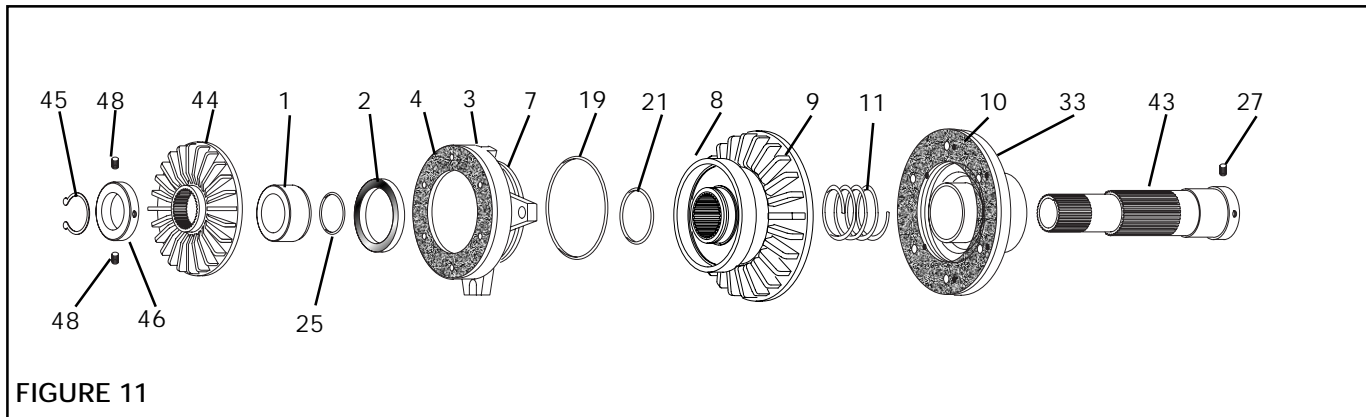

FIGURE 11
1. Supporting the inner bearing races, press the Hub (Item 43) into the Drive Disc (Item 33) and Bearings (Item 15) (See Figure 11).
2. Install the Return Spring (Item 11) (See Figure 11).
3. Supporting the inner bearing race, press the Piston Air-Chamber Assembly (Items 2, 3, 4, 7, 8 and 9) onto the Hub (Item 43) (See Figure 11).
4. Lubricate the new Spacer O-ring Seal (Item 25) with fresh o-ring lubricant and install it into the Spacer (Item 1) (See Figure 11).
5. Press the Spacer (Item 1) into the new Shaft Seal (Item 2) (See Figure 11).
6. Slide the Brake Friction Disc (Item 44) onto the Hub (Item 43) (See Figure 11).
7. Reinstall the Hub Collar (Item 46) (See Figure 11).
8. Reinstall the Retaining Ring (Item 45) (See Figure 11).
9. Tighten the Cap Screw (Item 47) and Set Screws (Item 48) to 25 Ft. Lbs. [33.7 N•m] torque (See Figure 11).